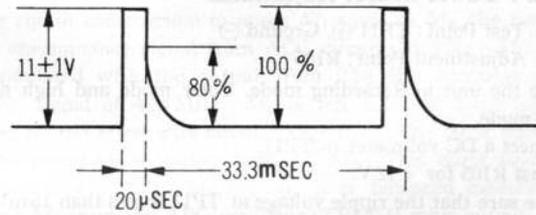

Fig. 4
3. Make sure that the waveform of TP24 becomes as shown in Fig. 4.